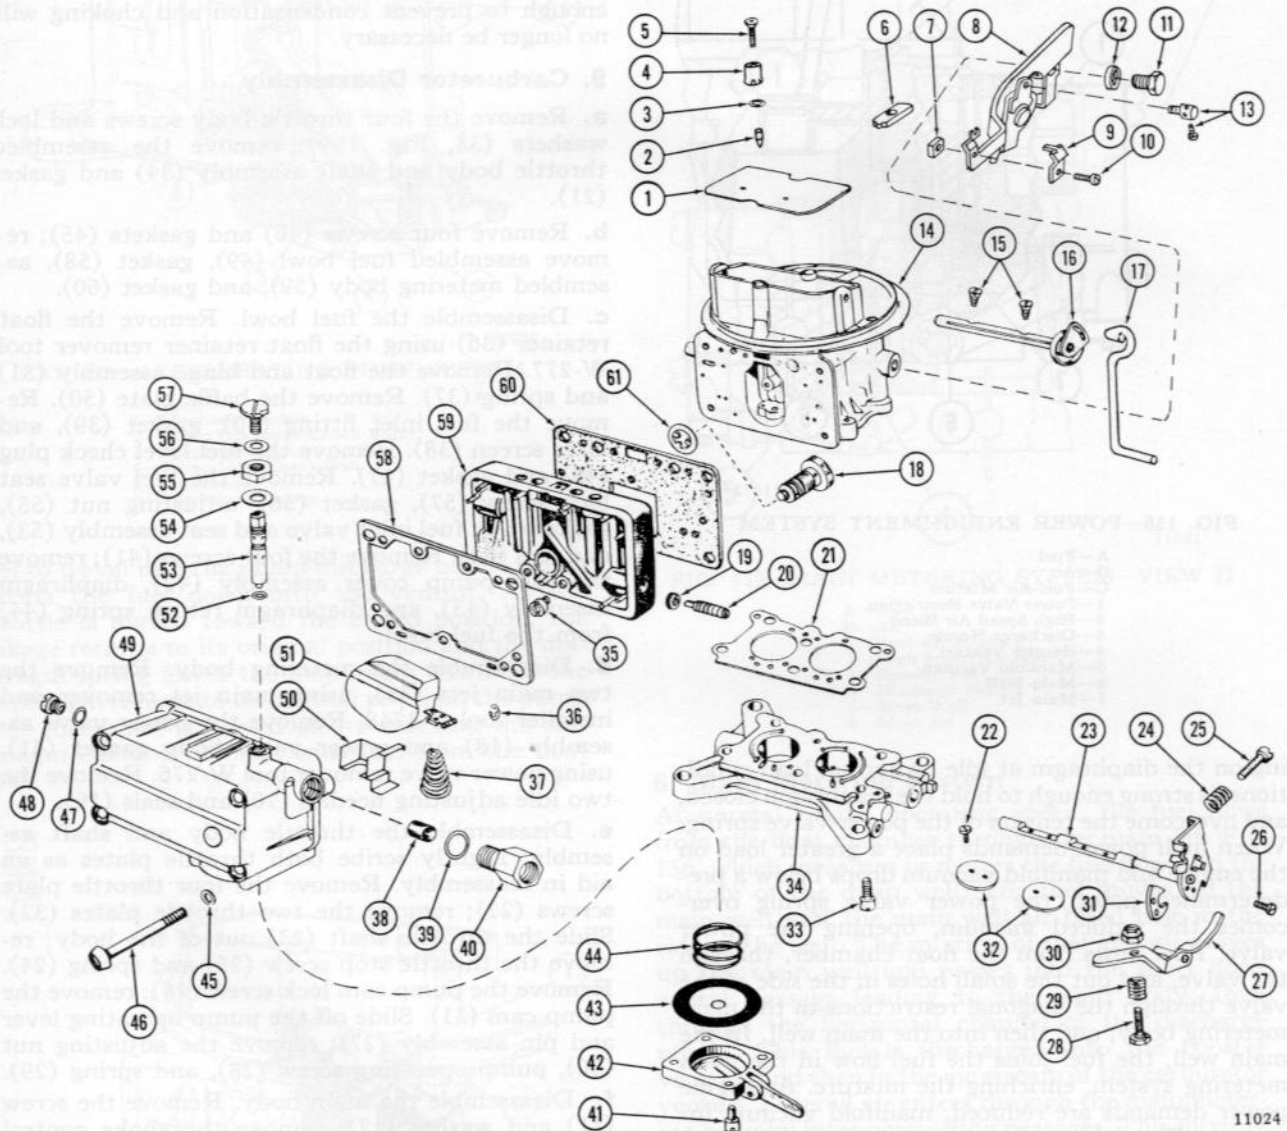

FIG. 159—TYPICAL CARBURETOR, EXPLODED VIEW
**a.** Remove the four throttle body screws and lock washers (33, Fig. 159); remove the assembled throttle body and shaft assembly (34) and gasket (21).
**b.** Remove four screws (46) and gaskets (45); remove assembled fuel bowl (49), gasket (58), assembled metering body (59), and gasket (60).
**c.** Disassemble the fuel bowl. Remove the float retainer (36) using the float retainer remover tool W-277. Remove the float and hinge assembly (51) and spring (37). Remove the baffle plate (50). Remove the fuel inlet fitting (40), gasket (39), and filter screen (38). Remove the fuel level check plug (48) and gasket (47). Remove the fuel valve seat lock screw (57), gasket (56), adjusting nut (55), gasket (54), fuel inlet valve and seat assembly (53), and seal (52). Remove the four screws (41); remove the fuel pump cover assembly (42), diaphragm assembly (43), and diaphragm return spring (44) from the fuel bowl.
**d.** Disassemble the metering body. Remove the two main jets (35), using main jet remover and installer tool C-3748. Remove the power valve assembly (18) and power valve body gasket (61), using power valve remover tool W-276. Remove the two idle adjusting needles (20) and seals (19).
**e.** Disassemble the throttle body and shaft assembly. Lightly scribe both throttle plates as an aid in reassembly. Remove the four throttle plate screws (22); remove the two throttle plates (32). Slide the throttle shaft (23) out of the body; remove the throttle stop screw (25) and spring (24). Remove the pump cam lock screw (26); remove the pump cam (31). Slide off the pump operating lever and pin assembly (27); remove the adjusting nut (30), pump operating screw (28), and spring (29).
**f.** Disassemble the main body. Remove the screw (11) and washer (12); remove the choke control lever and bracket assembly (8) and choke rod seal (6). Remove the choke control clamp screw (10) and nut (7); remove the clamp (9). Remove the swivel screw (13). Remove the two screws (15); remove the choke plate (1). Slide the choke shaft (16) from the main body; unhook the choke rod. Remove the screw (5), pump discharge nozzle (4), gasket (3), and pump check valve (2).
- b. Reassemble the main body. Install the pump check valve (2, Fig. 159), gasket (3), and pump discharge nozzle (4); secure with the screw (5). Torque the screws to 31-46 lb.-in. [36-53 kg.-cm.]. Slide the choke shaft (16) in the body. Position the choke plate (1) on the shaft; secure with two screws (15).
**a.** With the engine mounted level and operating, remove the fuel level check plug (48, Fig. 159). The fuel level should be within  $\pm \frac{1}{16}$ " [1,59 mm.] of the bottom line of the check plug port.
**b.** To adjust the level, loosen the lock screw (57) slightly with a screw driver and turn the adjusting nut with a  $\frac{5}{8}$ " [15,63 mm.] wrench. Turn the nut clockwise to lower the fuel level, counterclockwise to raise the fuel level ( $\frac{1}{6}$  turn equals approximately  $\frac{1}{16}$ " [1,59 mm.] in fuel level).
**b.** Seat the idle adjusting needles (20) and back off one half turn.
**c.** Run the engine at a fast idle until the operating temperature reaches normal. Adjust the throttle stop screw (25, Fig. 159) to idle the engine at the correct rpm.